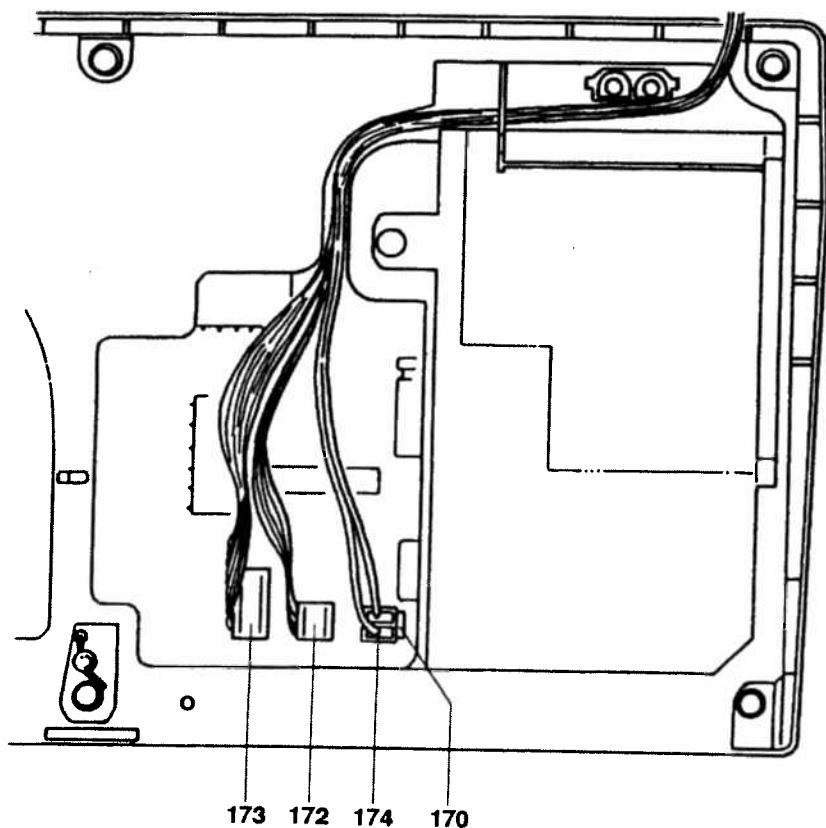

Fig. 1
- Remove the two plugs 172 and 173 from the circuit board (fig. 1).